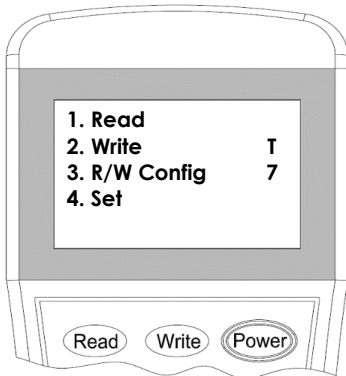

Figure 10
3. Switch-on the programmer, then press button "**3**" to enter to Configuration mode (Figure 10).